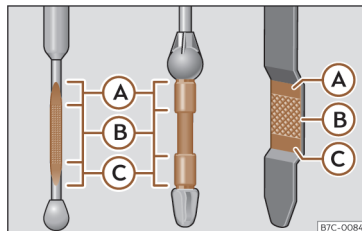

Fig. 214 Engine oil dipstick.
- Then pull it out once more and check the oil level >>> Fig. 214. Top up with engine oil if necessary.
- When the oil level reaches at least zone >>> Fig. 214 (B), unscrew the engine oil filler cap carefully >>> ⓘ.
If the oil level is above area >>> Fig. 214 (A), do not start the engine. This could result in damage to the engine and catalytic converter. Contact a specialised workshop.
The oil level must never be above zone >>> Fig. 214 (A). Otherwise oil can be drawn in through the crankcase breather and leak into the atmosphere via the exhaust system.